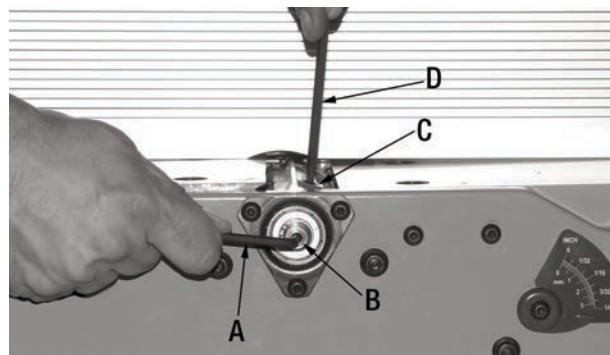

FIGURE 15
- 2) Use the supplied hex. key (A) Fig.15 to immobilize the cutterhead shaft (B) while removing each of the inserts (C) with the supplied Torx wrench (D).